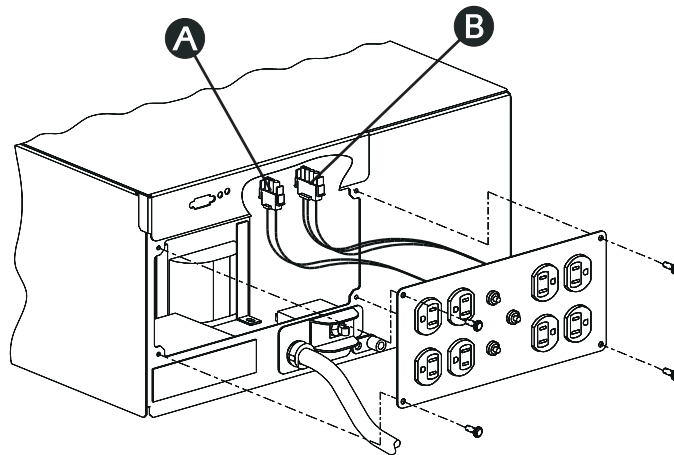

Figure 5-17 Removal of Output Panel (100V and 120V Rack Mount)
4. *Unscrew the output panel at the rear of the UPS. Remove only the 4 screws indicated in Figure 5-17.*
3. Retrieve the other four-wire, yellow jumper harness. Plug the “female” end of the jumper harness into connector #2. Connect the “male” end of the jumper harness to the 4-pin plug located inside the UPS. (Connector **B** in Figure 5-17)
4. Retrieve the 3-wire jumper harness (Figure 3-1, item #10). Plug the “female” end of the jumper harness into connector #3. Connect the “male” end of the jumper harness to the 3-pin output connector inside the UPS. (Connector **A** in Figure 5-17)